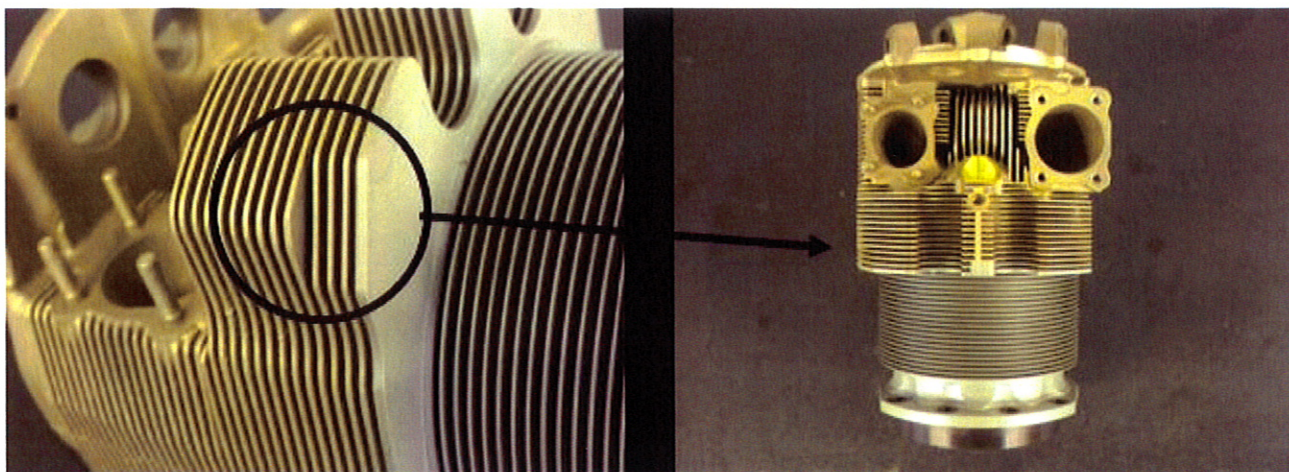

FIGURE 1
The EQ3 head casting cylinder assemblies are identified by a four (4) fin relief at the bottom lower left hand portion of the cylinder head (as installed on the engine) and a depression cast EQ3 in the cylinder head rocker boss (overhead) area as shown in Figures 1 and 2. These cylinders are to be replaced in accordance with the guidelines set forth in this bulletin and based upon applicable engine model and aircraft manufacturer procedures. All EQ3 cylinders must be replaced no later than December 31, 2009.